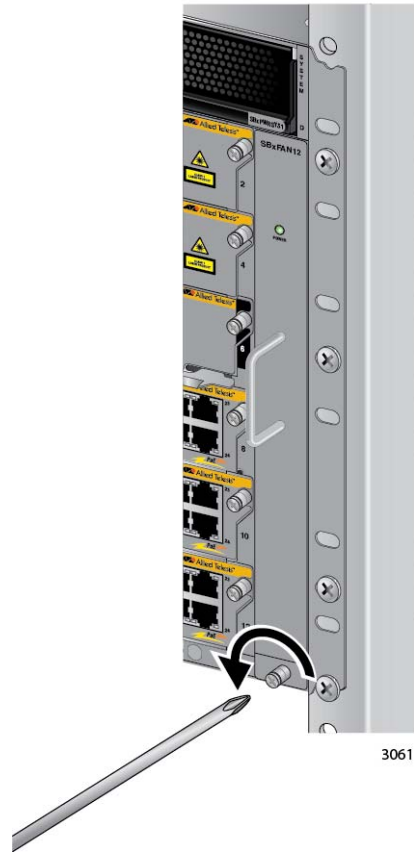

Figure 189. Loosening the Screw on the AT-SBxFAN12 Fan Module
2. Use a #2 Phillips head screwdriver to loosen the screw at the base of the fan module. Refer to Figure 189 on page 301.